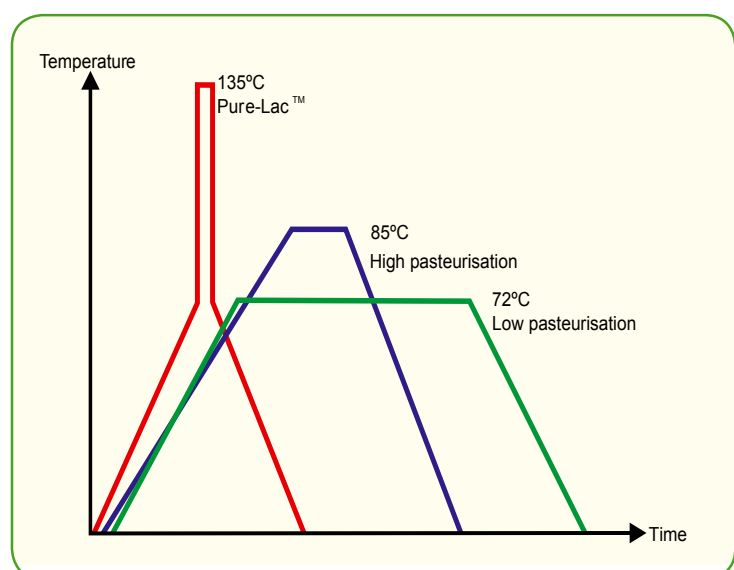

Fig. 1: Low-temperature pasteurisation
- Low-temperature pasteurisation. For milk, this is based on heating the product to 72 to 76°C and holding at that temperature for at least 15 to 20 seconds (or equivalent) (Fig. 1).
- High-temperature pasteurisation. This is based on heating the product to 85°C or higher for a few seconds (or equivalent) (Fig. 1). The aim is to kill the entire population of bacteria, which are pathogenic for both man and animals and almost all other bacteria as well. By careful monitoring of the process parameters a product with excellent quality can be obtained with minimum heat damage. The shelf life can be extended to several weeks in the cooling chain. The so-called Pure-Lac™ process is based on high-temperature pasteurisation.